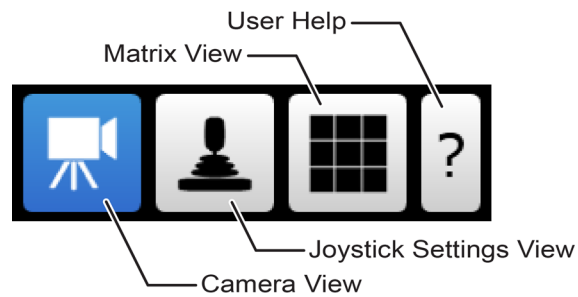

Figure 16 - Buttons for Selecting Interface Views, and for Launching User Help
The lower right corner of the SmartShell interface (Figure 16) includes four view buttons.
- **Camera View** button — Switches the interface to Camera View mode. In Figure 16, the Camera View button is selected (blue).